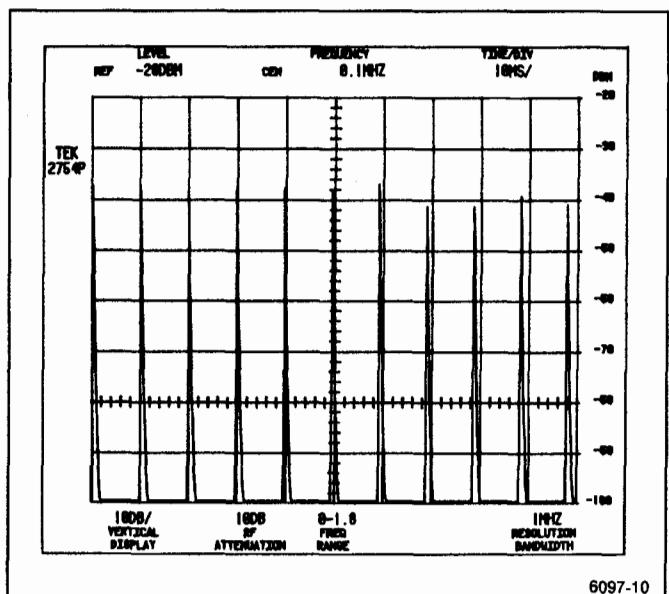

Figure 4-7. Typical display for measuring Time/Div accuracy.
c. Use the horizontal POSITION control to align a marker on the 1st graticule line (see Figure 4-7), then check the displacement of markers from their respective positions over the center eight divisions. Individual marker displacement must not exceed 5% or 2 minor divisions.